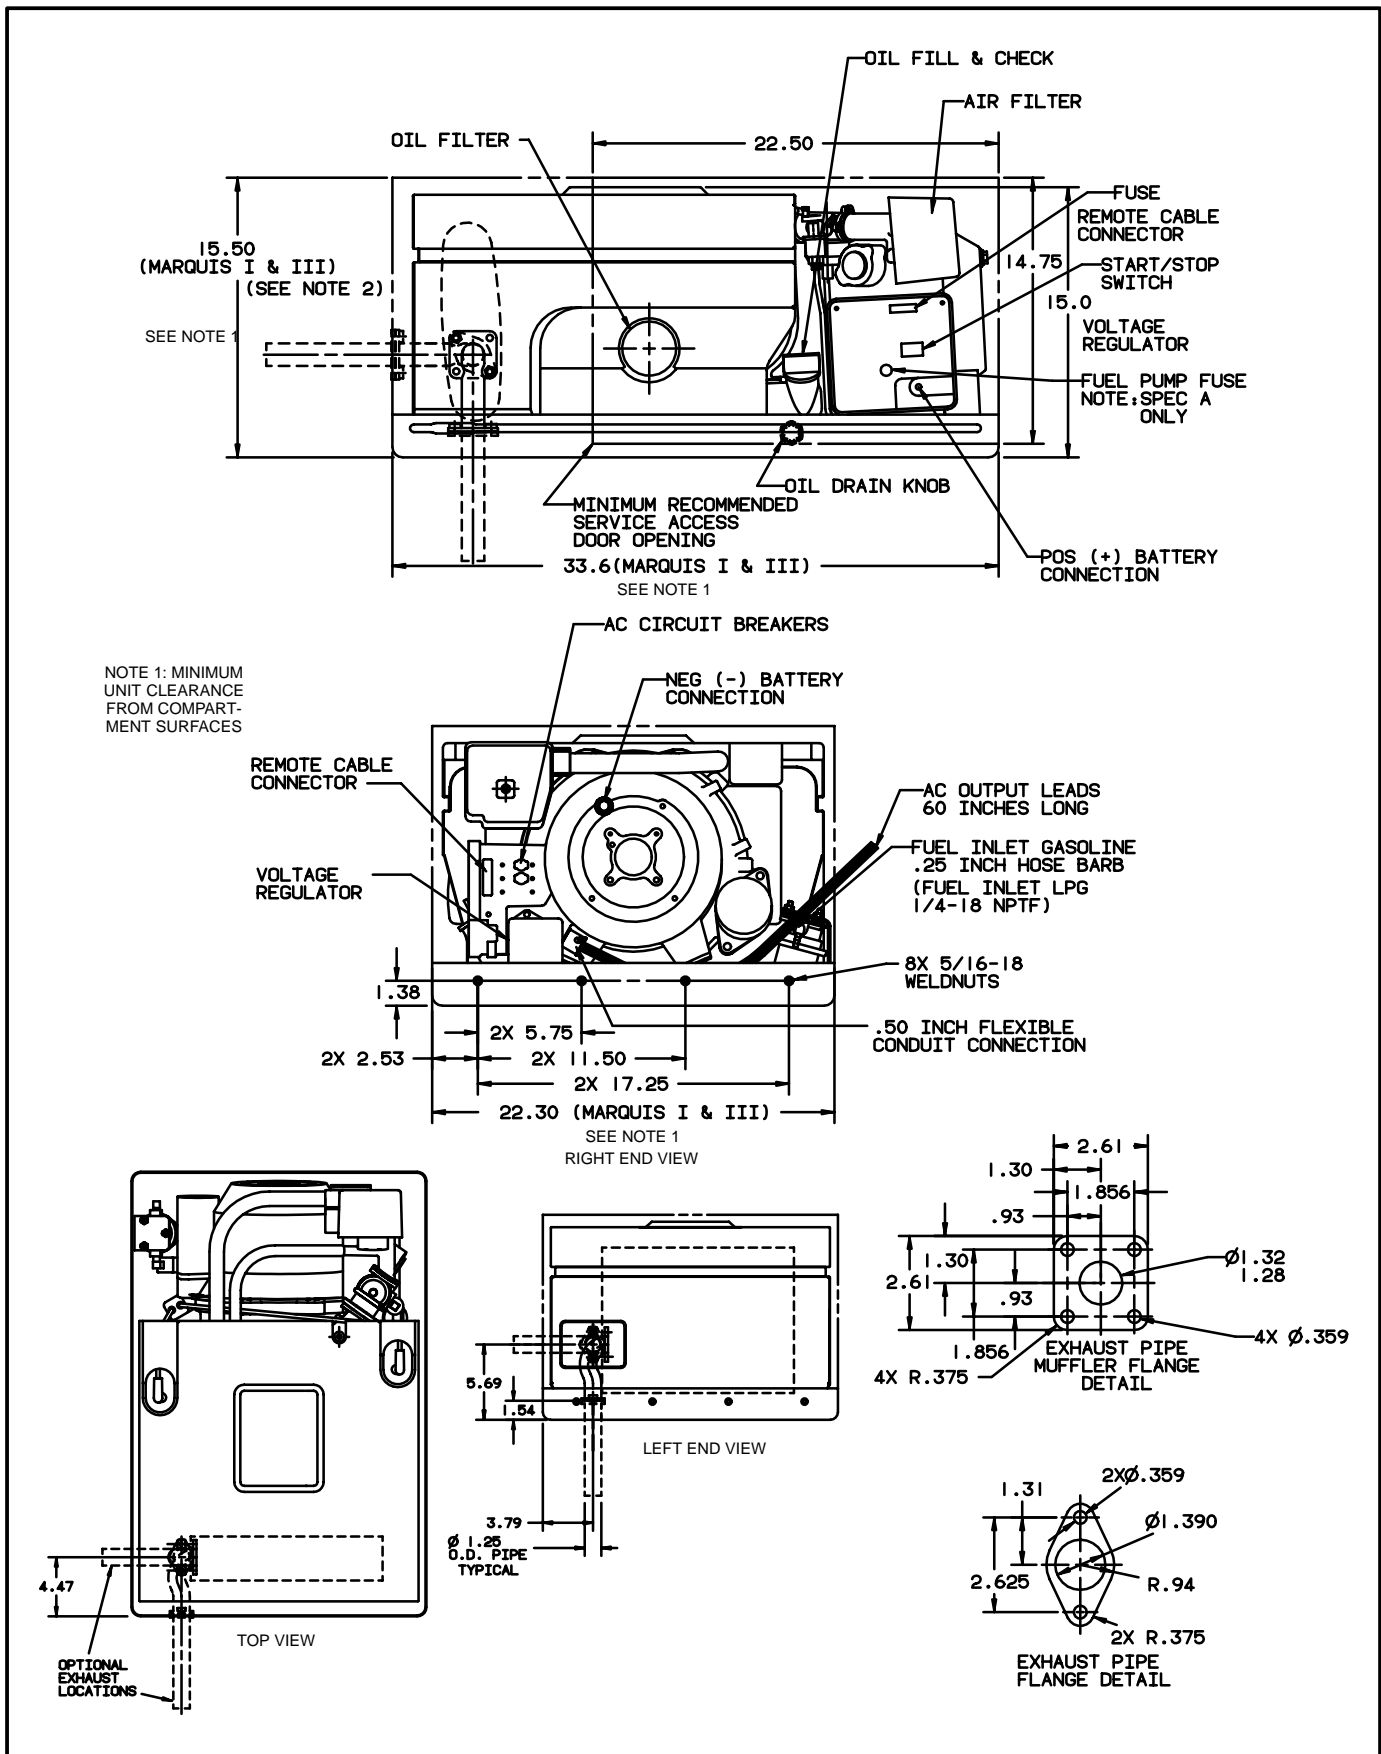
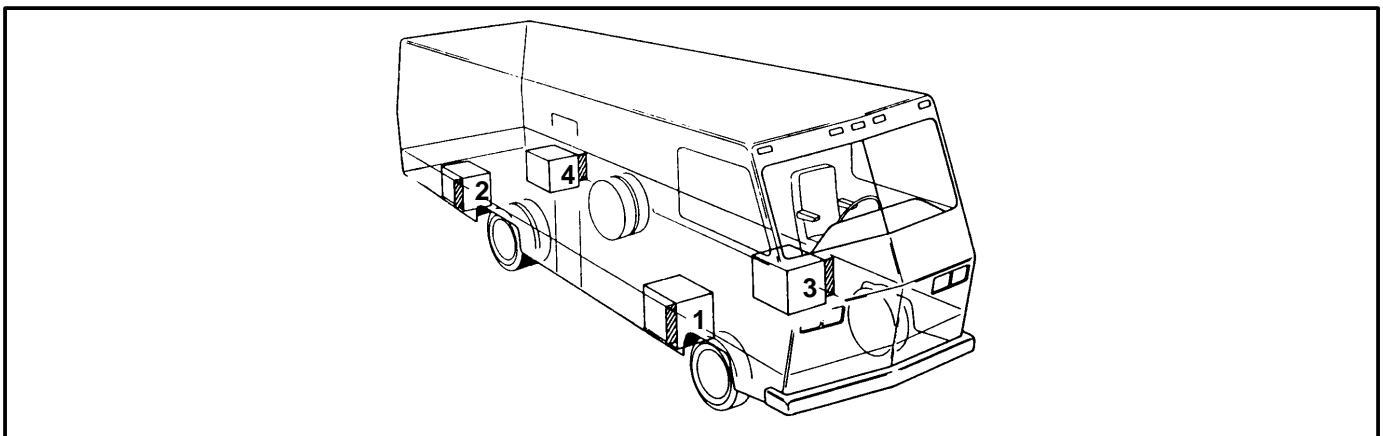

FIGURE 3-1. COMPARTMENT MOUNT OUTLINE
FIGURE 3-3. COMMON GENSET MOUNTING AREAS
Minimum compartment dimensions are shown in Figure 3-1. Clearances between the generator set and the compartment are included in these dimensions.
To minimize noise, line the entire genset compartment with a 1/2 to 1 inch (12.7 to 25.4 mm) thickness of self-extinguishing acoustical material, rated for 250° F (121° C) minimum. Adjust the compartment height, width and depth dimensions to fit the acoustical material. See Figures 3-1 and 3-2.
1. Install the generator set in its own compartment. See Figures 3-1 and 3-2.
5. Secure the set mounting tray to the support frame, using four 3/8-16 UNC grade 5 screws (bottom mounting) or eight 5/16-18 UNC grade 5 screws (side mounting). The mounting bolts must not extend more than 1/4 inch (6 mm) through the mounting nut. See Figures 3-1 and 3-2. Torque 3/8" mounting screws to 35 ft lbs (47 N•m). Torque 5/16" mounting screws to 25 ft lbs (34 N•m).
Figure 3-3 shows the most common mounting areas for an underfloor mount. If the set is mounted on the curb side, location 1 or 2, protect its generator end from road splash and debris. If mounted on the driver's side, location 3 or 4, protect its engine end. If possible, drive the vehicle through mud and slush to test the installation. Refer to shaded areas of Figure 3-3.
See Figure 3-1 for size and Figure 3-3 for locations.
⚠WARNING *High temperatures in the compartment can present the hazard of fire, which can result in severe personal injury or death. To meet ANSI and CSA temperature rise requirements for vehicles, the layer of insulation must not reduce the minimum compartment size specified in Figure 3-1.*
The exhaust pipe can leave the generator set in one of three directions (see Figures 3-1 and 5-3):
- An exhaust tailpipe can be constructed by welding a 1/4 inch plate steel mounting flange (see Figure 3-1 for flange dimensions) onto a minimum 1-3/8 inch O.D. 18-gauge rigid steel exhaust tailpipe.